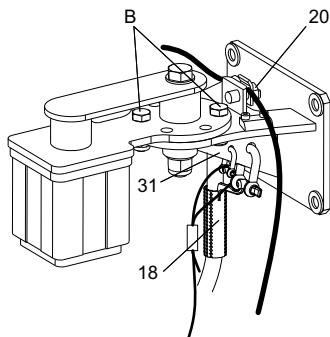

Fig. 25 Top fixation bracket with lifting and safety wires and cable sock
20. Mount the cable sock (pos. 18) to the top fixation bracket using the shackle, and pull the motor cable through it, to the desired position. See fig. 25. The power supply cable should be slightly tightened.